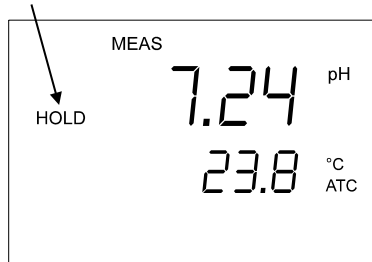

Figure 22: HOLD function
2. Switch on the meter. The MEAS annunciator appears on the top center of the LCD. The ATC indicator appears in the lower right hand corner to indicate Automatic Temperature Compensation. See Figure 22.